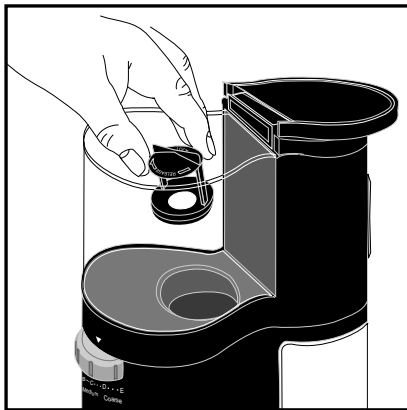

Figure 2
2. Open the hopper lid. Empty any whole beans from the hopper. Remove the top burr mill by rotating it clockwise (Figure 2). For better results hold the grind setting button while rotating the burr mill clockwise. This will allow you to clean the grinding wheel and the grinding compartment.